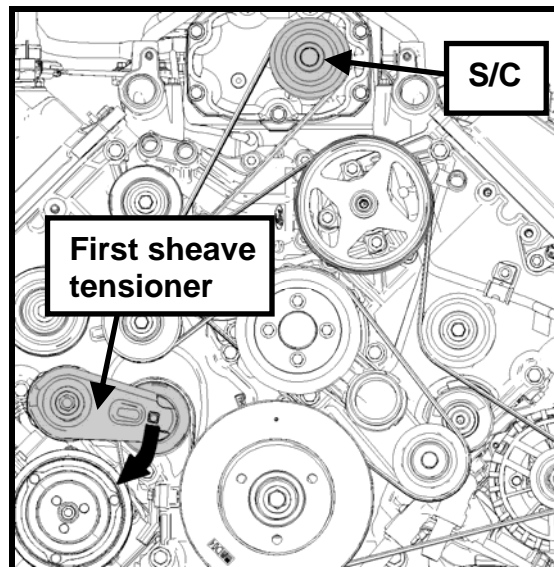

Fig. 13
STEP 13: Use a 3/8" breaker bar to release the first sheave tensioner and remove the FEAD belt from the supercharger (S/C) pulley (See Fig. 13).